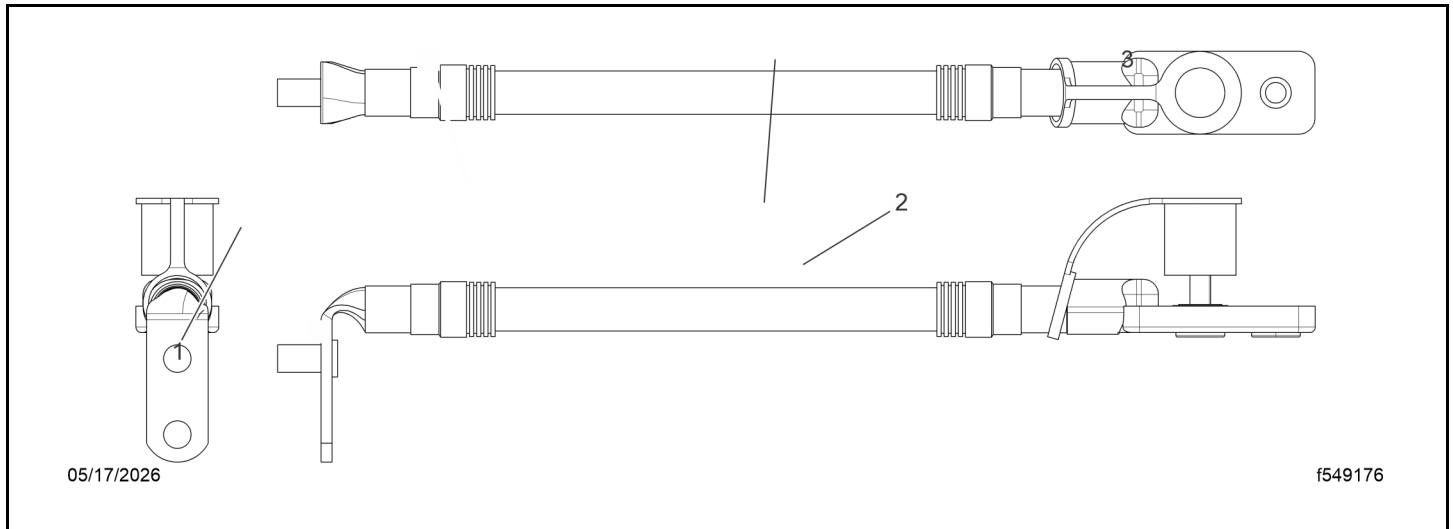

Fig 120, Jump-Start Cable Orientation
- g. Position the new terminal according to the orientation drawing. See Fig. Fig. 120.